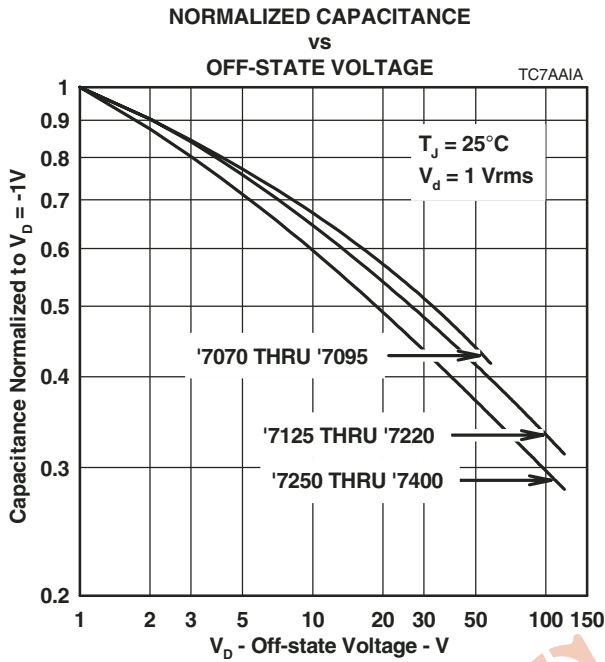
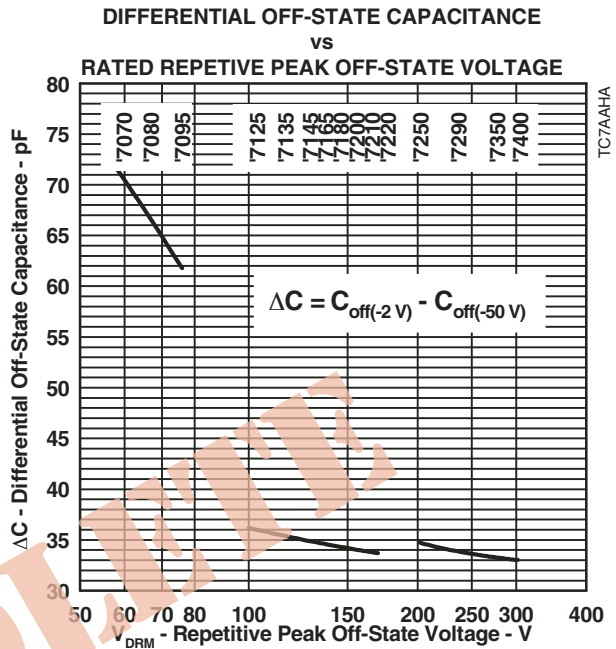

Figure 6.
Figure 7.
The protector characteristic off-state capacitance values are given for d.c. bias voltage,  $V_D$ , values of 0, -1 V, -2 V and -50 V. Where possible, values are also given for -100 V. Values for other voltages may be calculated by multiplying the  $V_D = 0$  capacitance value by the factor given in Figure 6. Up to 10 MHz, the capacitance is essentially independent of frequency. Above 10 MHz, the effective capacitance is strongly dependent on connection inductance. For example, a printed wiring (PW) trace of 10 cm could create a circuit resonance with the device capacitance in the region of 50 MHz. In many applications, the typical conductor bias voltages will be about -2 V and -50 V. Figure 7 shows the differential (line unbalance) capacitance caused by biasing one protector at -2 V and the other at -50 V.